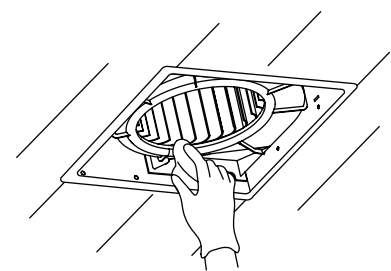

Fig. 9
4. Dampen cloth with dish detergent, wipe the fan housing and dry with a cloth (Fig. 9).